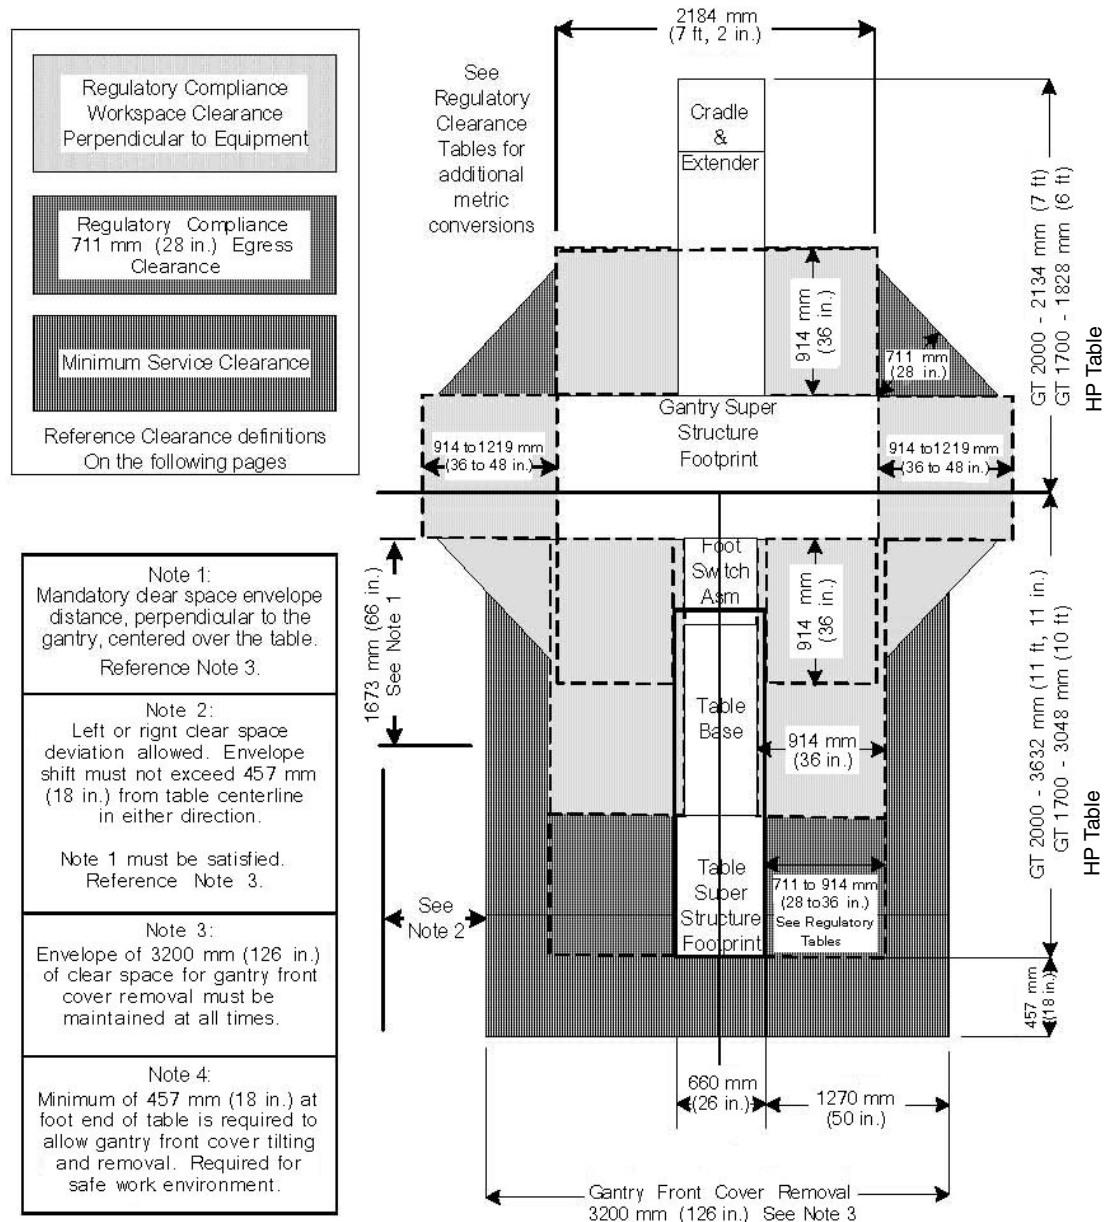
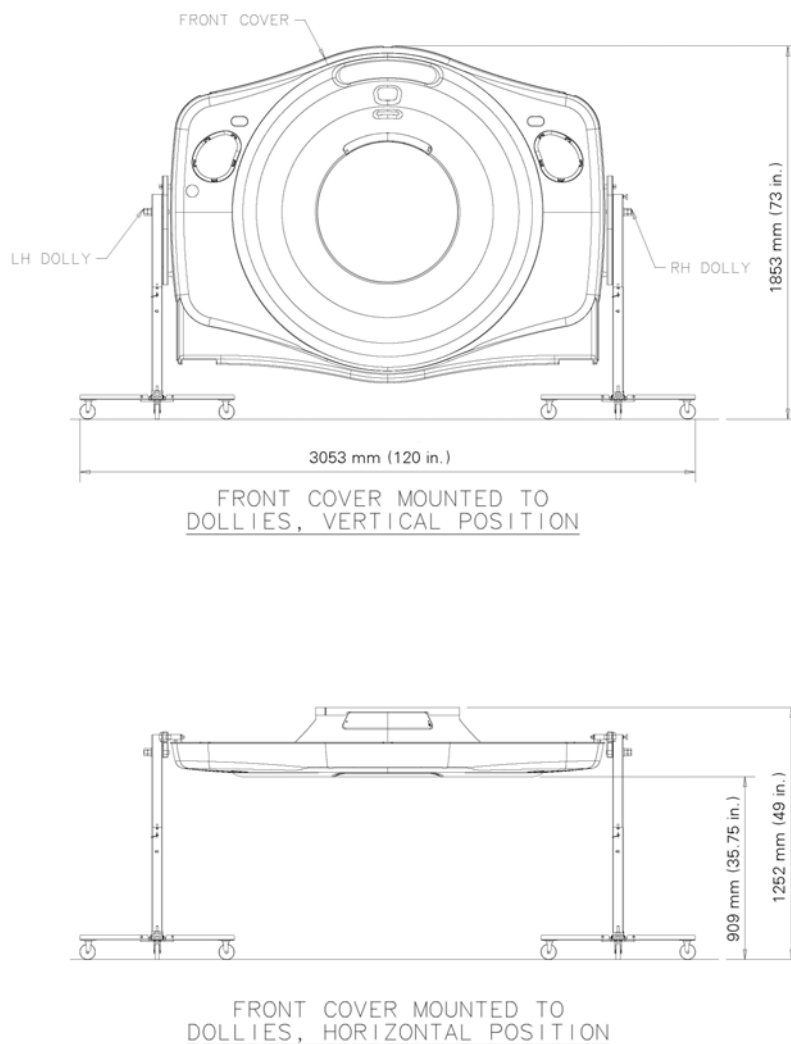

Figure 4-4 Minimum Service Clearance
Figure 4-6 Gantry Front Cover with Service Dolly Dimensions
- Gantry front cover removal requires the use of the Tilting Cover Dollies. These dollies allow the Service Engineer to separate the cover from the gantry, tilt the cover 90 degrees, roll the cover to the foot end of the table, and then tilt the cover an additional 90 degrees, such that the front cover is now upside down relative to the normal system-mounted condition. Figure 4-4 illustrates the minimum clear space required to achieve this operation of 3200 mm (126 in.). The gantry front cover must be removed to a position that satisfies the minimum regulatory clearances.
- The gantry rear cover with service dollies installed, requires a width of 2388 mm (94 in.) and a depth of 584 mm (23 in.) of clearance for removal as shown in Section 6.0, Figure 4-6. Sufficient space must be calculated to move the cover either straight back or to one side of the table to satisfy the minimum service clearance shown in Figure 4-4. This means the rear cover cannot violate the workspace on the rear, or on either side of the gantry.